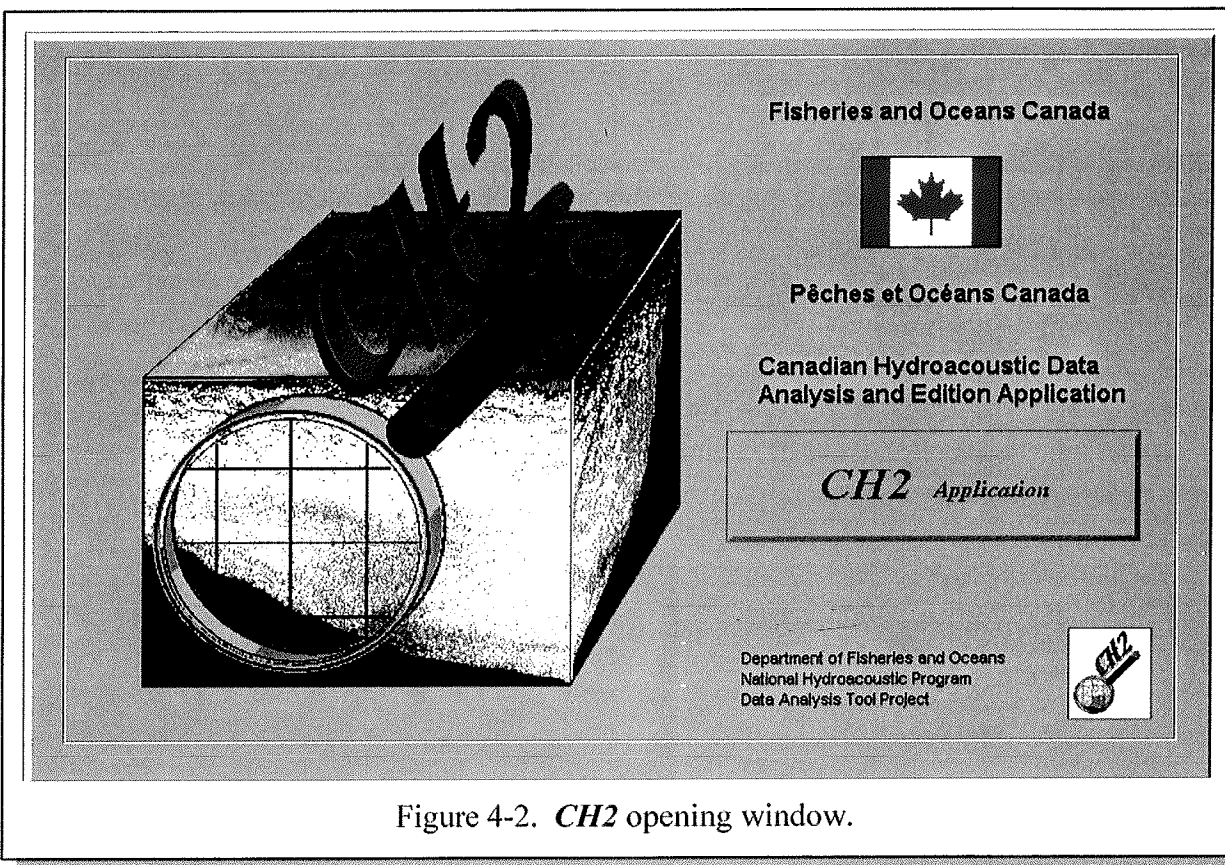
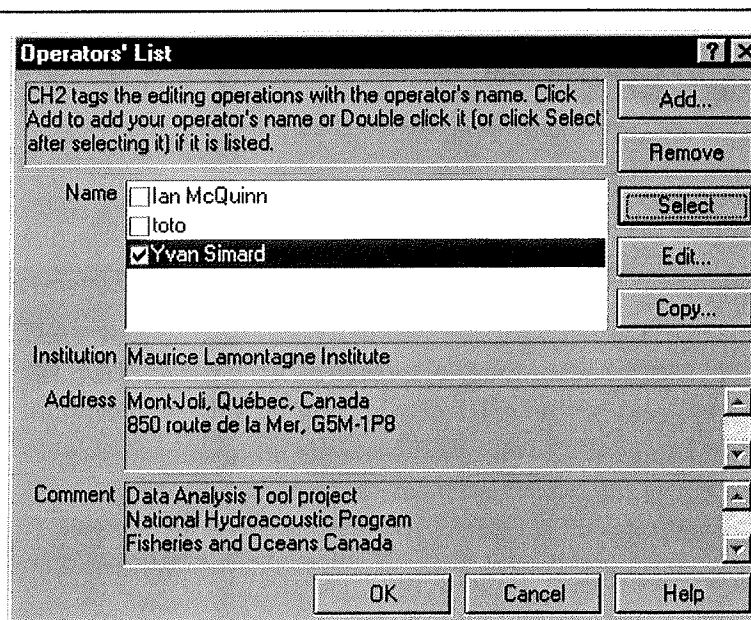

Figure 4-2. **CH2** opening window.
Figure 4-3. **CH2** operators' list dialog box.
1. To start **CH2**, click the **CH2** icon. After clicking on the opening window (Figure 4-2.), the operator's list dialog box opens (Figure 4-3). Register as an operator using the Add button. Then click on the Select button to choose your name in the operators' list, and click OK.
At the start of **CH2**, the following window with a gridded magnifying glass on a 3-D parcel of ocean (Figure 4-2.) is displayed for 10 seconds. It disappears on a click to display the
Operators' list dialog box (Figure 4-3.). **CH2** tags all editing/classification operations performed on the data by a user's name. This attribute can be used in future examination and processing of the edited **HAC** files. The operators' list can be generated or edited from that dialog box, or via the Edit / Operators' list menu. This list resides on the Windows95/98® registry of the PC, in the present version of **CH2**. As indicated, one operator must be activated to operate **CH2**.